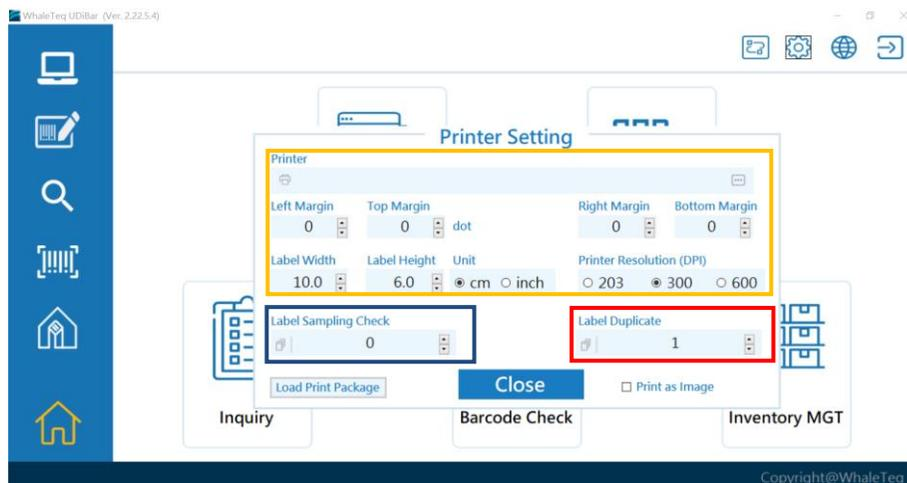

Figure 65: Printer settings
- (3) Set paper size, printer resolution (shown by the orange box in figure 65); for barcode check settings (shown by the orange box in figure 65), you can set the sampling rule by yourself (shown by the blue box in figure 65), and determine the number of copies to be printed (shown by the red box in figure 65).